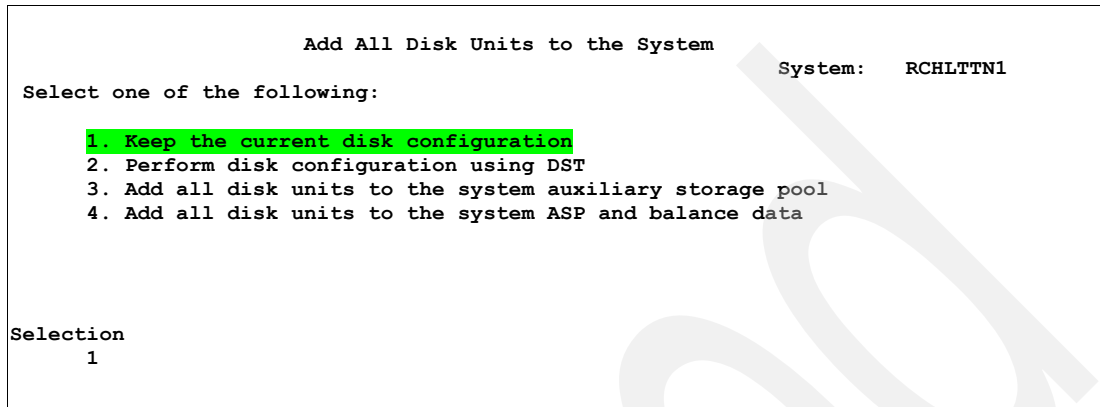

Figure 5-95 Add All Disk Units to the System
15. After the copy process completes successfully, the system IPLs automatically. During the IPL, a message displays, as shown in Figure 5-95, because the system found an unconfigured unit as the previous load source IPL. You can continue by selecting **1. Keep the current disk configuration**, as shown in Figure 5-95.